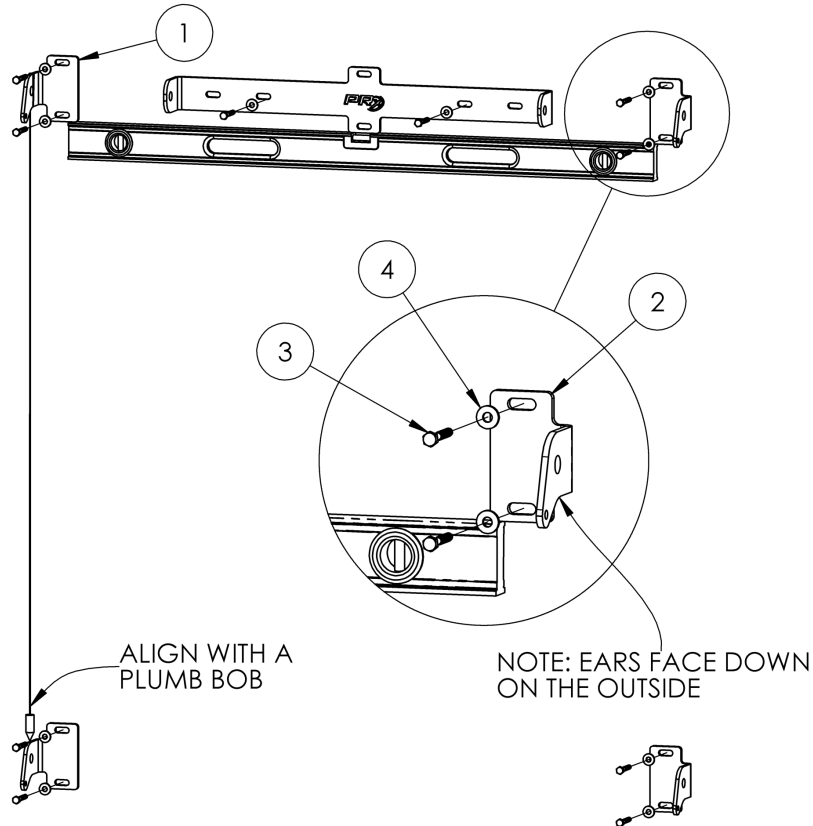

Figure 3: Installing the Wall Brackets with Lag Screws
- Align the wall bracket over the drilled holes so the ear of the wall bracket is facing down and out. Using an impact driver and 1/2" socket, fasten the first upper wall bracket to the wall with two 5/16" lag screws (3) and washers (4) (**Figure 3**).
- Place the 4-foot level against the bottom edge of the first upper wall bracket, span it to the next marked stud 48" away, and mark the wall once leveled (**Figure 3**).